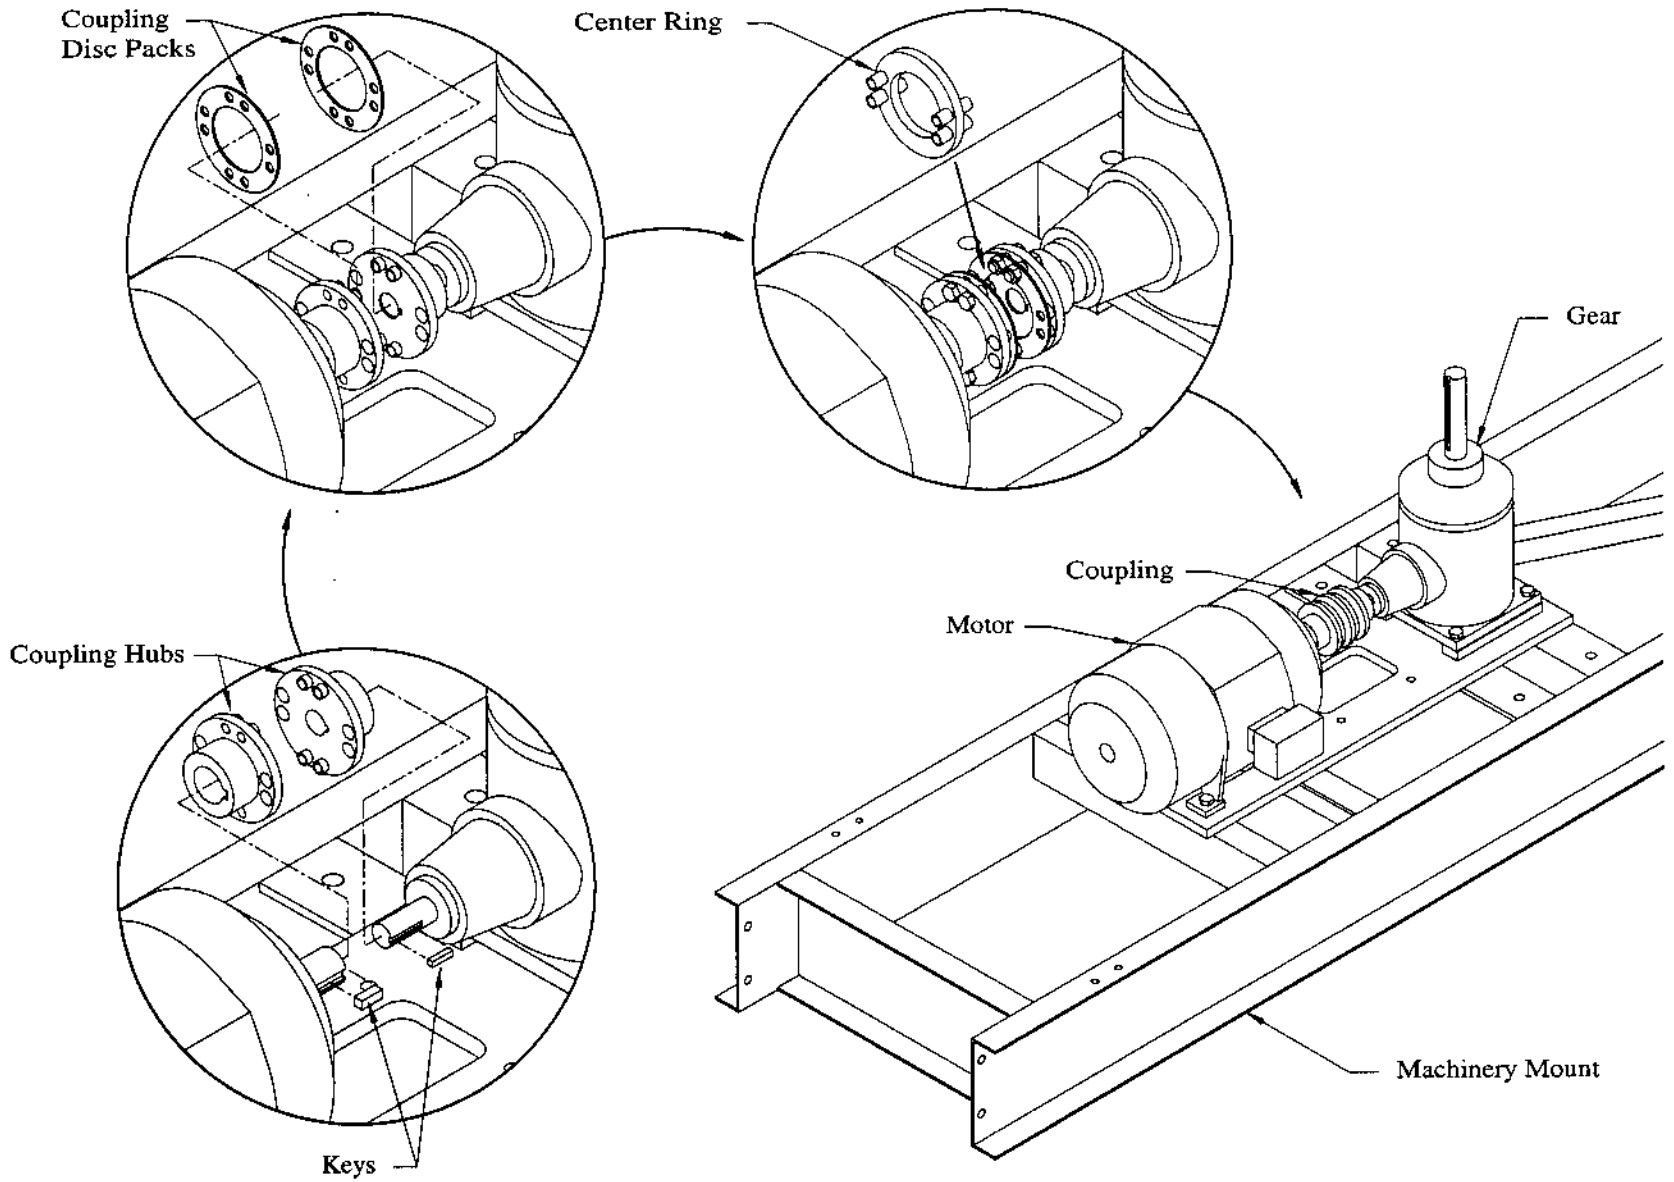

FIG. C2 - COUPLING
3. Attach coupling, with keys, and align shafts per coupling brochure. See Fig. C2.